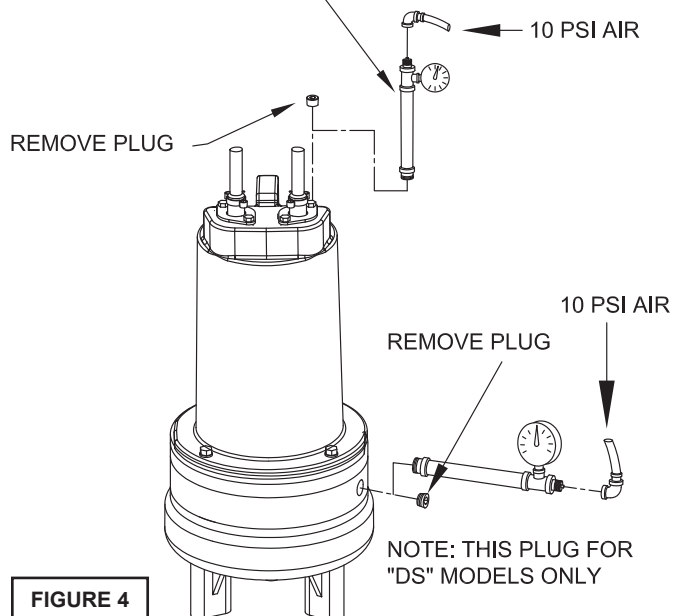

FIGURE 4
To clean out volute (1) or replace impeller (33), disconnect power, remove hex bolts (26), and lockwasher (12), vertically lift motor and seal plate assembly from volute (1) and spacer ring (31), see Figure 4. Clean out body if necessary. Clean and examine impeller (33), for pitting or wear and replace if required, inspect gasket (36) and replace if cut or damaged. If the impeller (33) needs replacing, place a flat screwdriver in the slot of the end of the shaft to hold the shaft stationary while unscrewing the jam nut (66) and impeller (33).